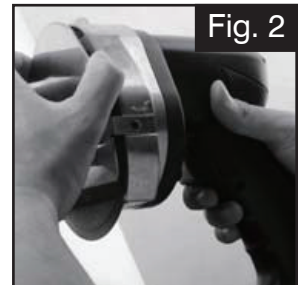

Fig. 2
3. Remove the knife protector. (Fig. 2)